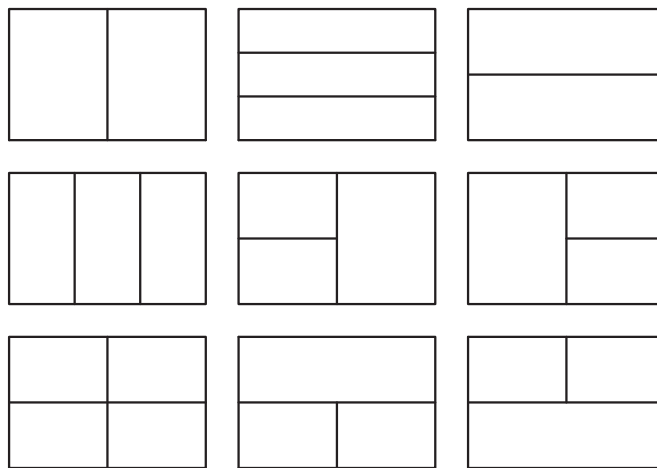

Fig. 26-5
1. Create each of the viewport configurations shown in Fig. 26-5.